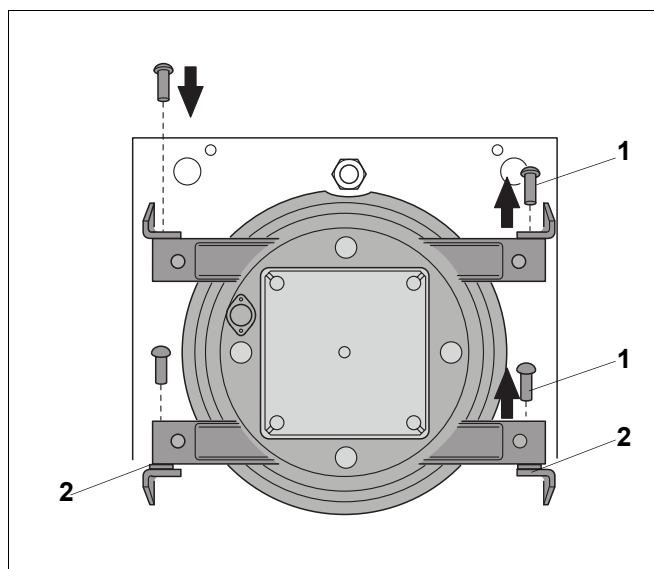

Fig. 17 Reversing the door hinges
- Push the hinge bolts out of the hinges from underneath (Fig. 17, **Item 1**).
- Refit the washer and the two hinge pins on the other side (Fig. 17, **Item 2**). Remember the washer!